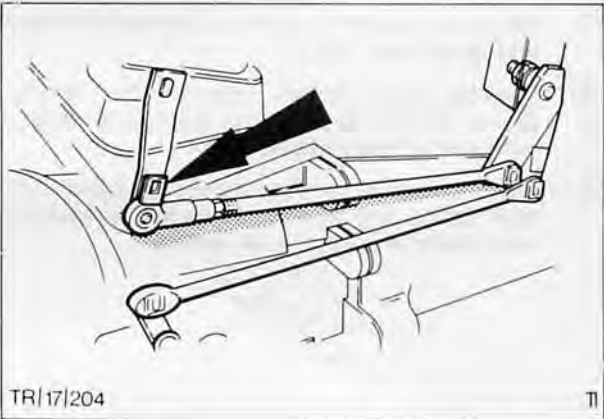

Fig. 5. Remove clip from gearshift lower end
6. Remove retaining clip, Fig. 5.